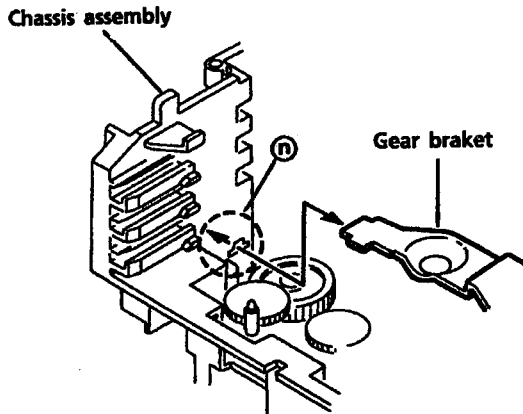

Fig. 38
3. Remove the gear bracket from the chassis ass'y's ③ securing top of the gear bracket. (See Fig. 38.)